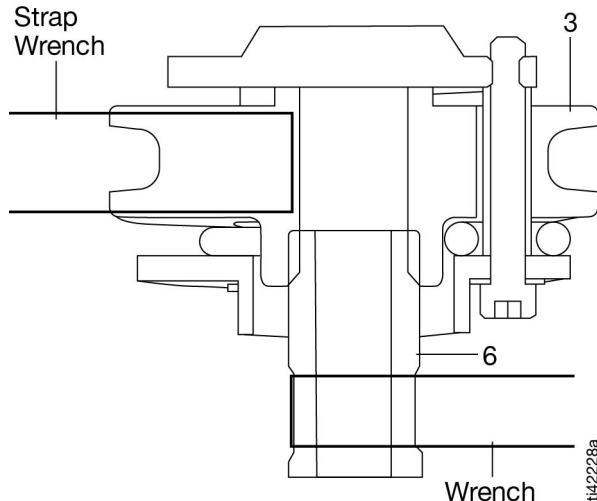

FIG. 4
11. Remove the spring (5) and inspect, replace as needed.
12. Reinstall the spring (5).
13. Reassemble the air valve (3), using new parts as needed. Apply thread sealant to the threads of the screws (3e), and torque evenly to 10 to 14 in-lb (1.13 to 1.58 N•m).
14. Position the washer (4) and the spring (5) into place.
15. Apply thread sealant to the threads of the piston (3d) and place the air valve (3) onto the shaft (6).
16. Use a strap wrench on the piston (3d) and a wrench on the shaft (6) then screw the air valve onto the shaft and torque to 75 to 100 in-lb (8.47 to 11.30 N•m) (FIG. 4).